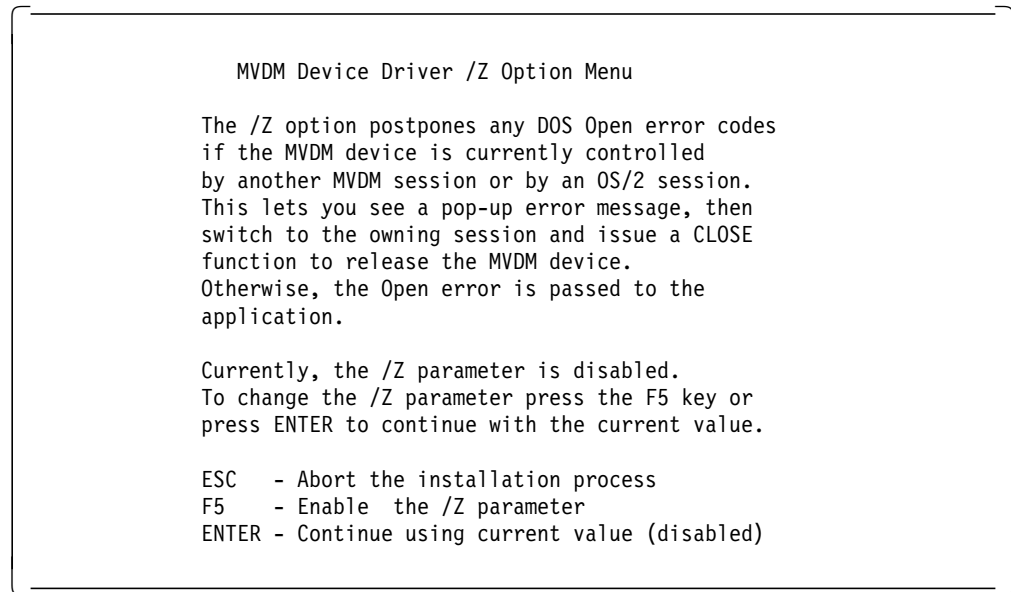

Figure 75. MVDM Device Driver /Z Option Menu
4. Press Enter and Figure 75 will be displayed.